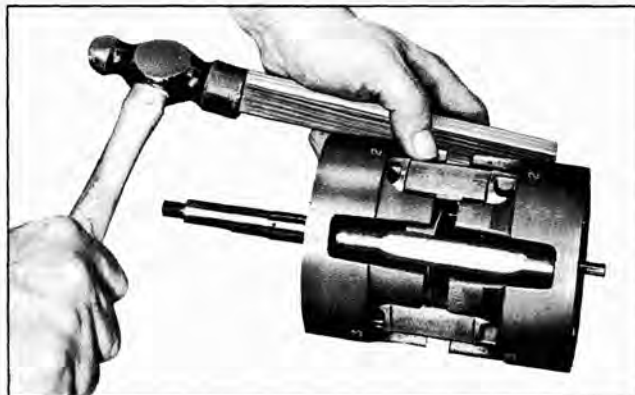

Fig. 5-74 Separating Cylinder Halves
2. Turn compressor shaft to position swash plate towards front of compressor in area of discharge crossover tube. Using J-9492, drive discharge crossover tube out of rear head assembly toward *front* of compressor or use a wooden block as shown in Fig. 5-74. **DO NOT** drive toward rear of compressor as discharge crossover tube may damage swash plate.